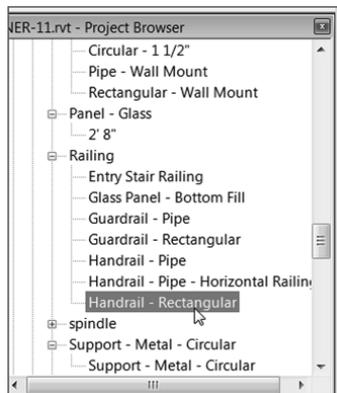

FIGURE 10.55 : The railing family called Handrail – Rectangular
1. In the Project Browser, find the Families category, and expand it, as shown in Figure 10.55.